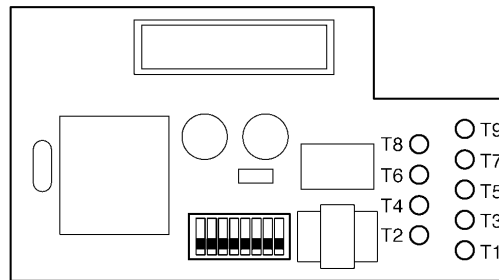

Figure 6-42: ADA-UA Unit
2. Locate the adapter terminals on the right side of the unit as illustrated in *Figure 6-42: ADA-UA Unit*.